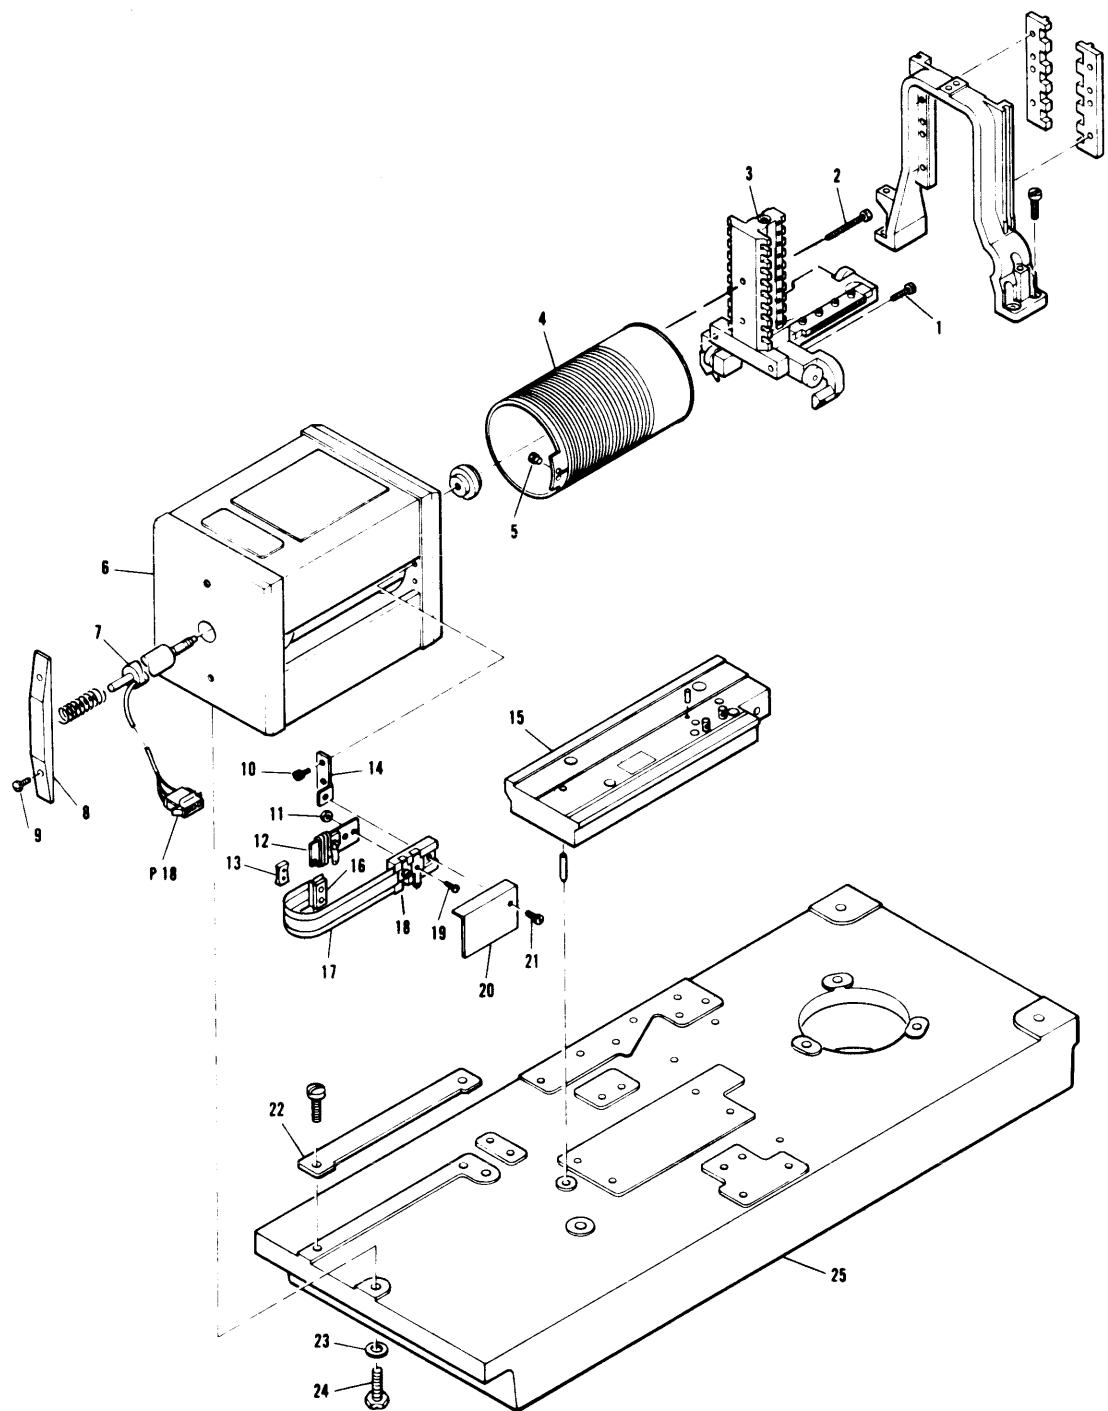

FIGURE 5-16. DECK PLATE ASSEMBLY
Figure 5-16 is an exploded view of the deck plate assembly. Components to be removed during this procedure are referenced by their numeric callouts.
5.15.2 Preassembly (See Figure 5-16.)
5.15.3 Soldering (See Figure 5-16.)
5.15.4 Assembly (See Figure 5-16.)
5. Remove the three bobbin mounting screws and disconnect the tach rod from the Tee-block. (Refer to Figure 5-16.)